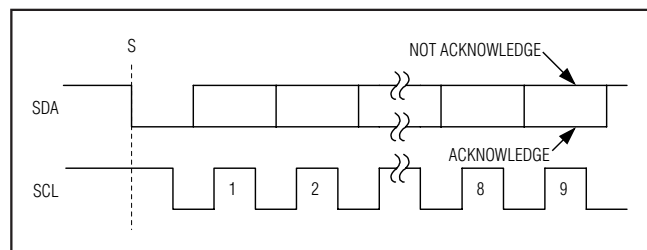

Figure 6. Acknowledge Bits
Data transfers are acknowledged with an acknowledge bit (A) or a not-acknowledge bit (Ā). Both the master and the MAX11606-MAX11611 (slave) generate acknowledge bits. To generate an acknowledge, the receiving device must pull SDA low before the rising edge of the acknowledge-related clock pulse (ninth pulse) and keep it low during the high period of the clock pulse (Figure 6). To generate a not-acknowledge, the receiver allows SDA to be pulled high before the rising edge of the acknowledge-related clock pulse and leaves SDA high during the high period of the clock pulse. Monitoring the acknowledge bits allows for detection of unsuccessful data transfers. An unsuccessful data transfer happens if a receiving device is busy or if a system fault has occurred. In the event of an unsuccessful data transfer, the bus master should reattempt communication at a later time.